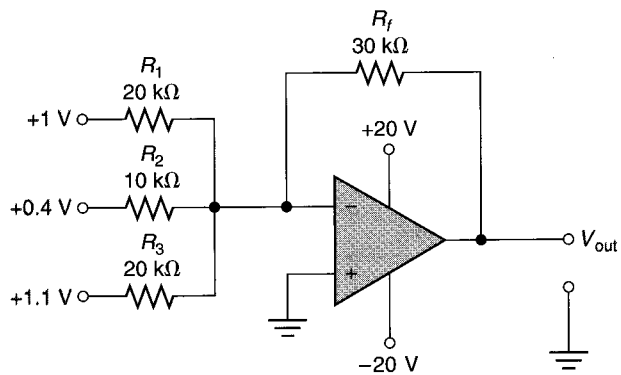

FIGURE 16.42
15. Derive the general-class equation for the summing amplifier in Figure 16.42. Then, use the equation to determine the output voltage for the circuit.
16. The feedback resistor in Figure 16.42 is changed to  $24 \text{ k}\Omega$ . Derive the new general-class equation for the circuit, and determine its new output voltage.